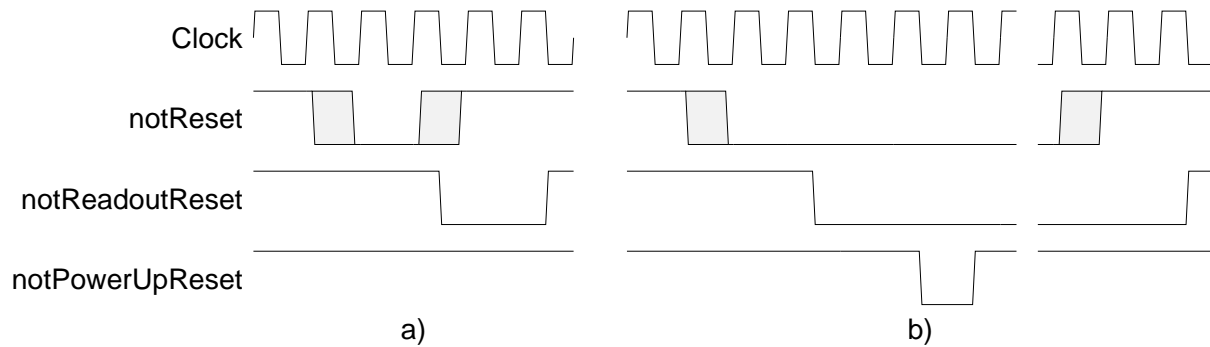

Figure 3: Types of reset on *Beetle1.1*: a) Readout reset, b) Power up reset
- Readout reset (cf. fig.3 a))
- Power up reset (cf. fig.3 b))